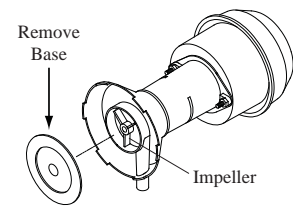

Fig. 9
- **Clean water pump and dump pump.** Cleaning both pumps is necessary once a year at start-up. For your safety, turn unit off and unplug motor and pumps. Remove the pump from the mount slot. Remove the base of the pump as shown in Fig. 9. Clean the pump and turn the impeller to ensure free operation. Remove the pump spout and check for any blockage. After cleaning, reinstall the base onto the pump. Press firmly to make sure it is secure. Reattach the pump to the mount in the cooler using the plastic retainer to ensure that the pump will not overturn. Do not forget to replace the spout and water delivery tube onto the pump outlet.